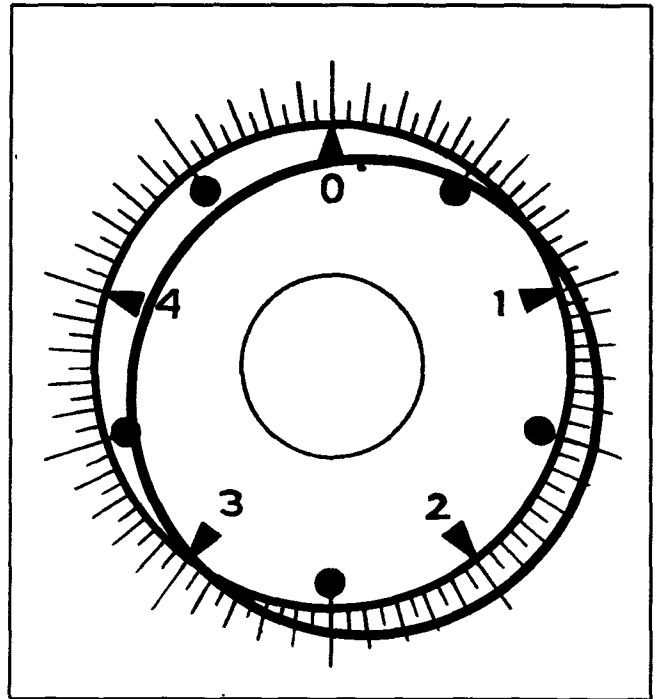

Figure 6-2. Audio-Oscillator Calibration Pattern
b. With SCALE still on TIMES ONE, vary audio-oscillator frequency in the vicinity of 98 kc until a 1:1 ratio between audio-oscillator frequency and crystal frequency is observed on the indicator. (See figure 6-2.) This step requires patience, since a small movement of the audio-oscillator dial results in a considerable frequency change. The pattern on the indicator will revolve slowly, for the two frequencies cannot be exactly synchronized.